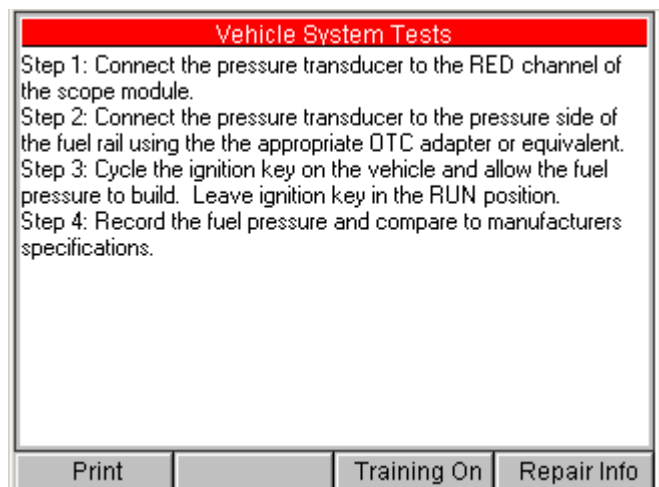

Figure 11.3: Test Instructions Screen
- 4 One or more additional screens may appear for further identifying the system test. On each screen that appears, **select the correct option** and then press the **ENTER** key. Do this until the system test is completely identified and the test instructions appear (Figure 11.3).